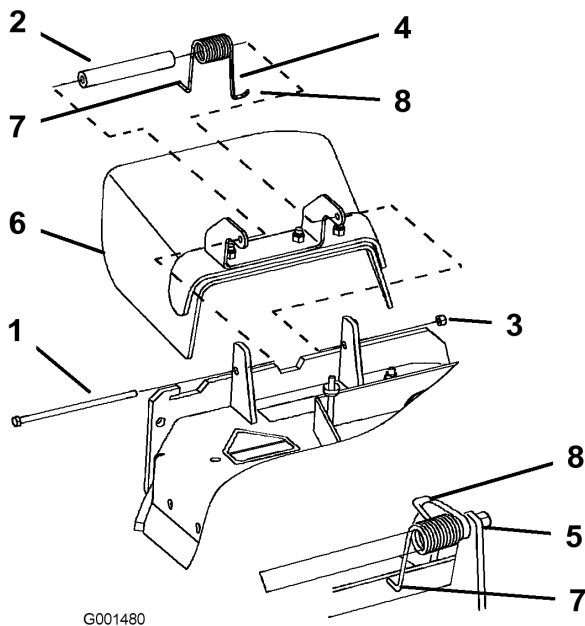

Figure 45
1. Remove the locknut, bolt, spring and spacer holding the deflector to the pivot brackets (Figure 45). Remove damaged or worn grass deflector.
Note: Make sure the **L** end of spring is installed behind deck edge before installing the bolt as shown in Figure 45.
- Install bolt and nut. Place the **J** hook end of spring around grass deflector (Figure 45).